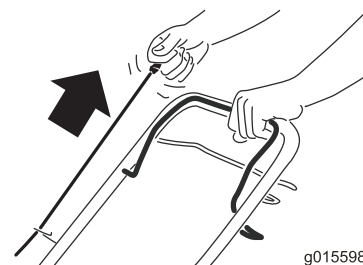

Figure 17
2. Pull the recoil-start handle (Figure 17).